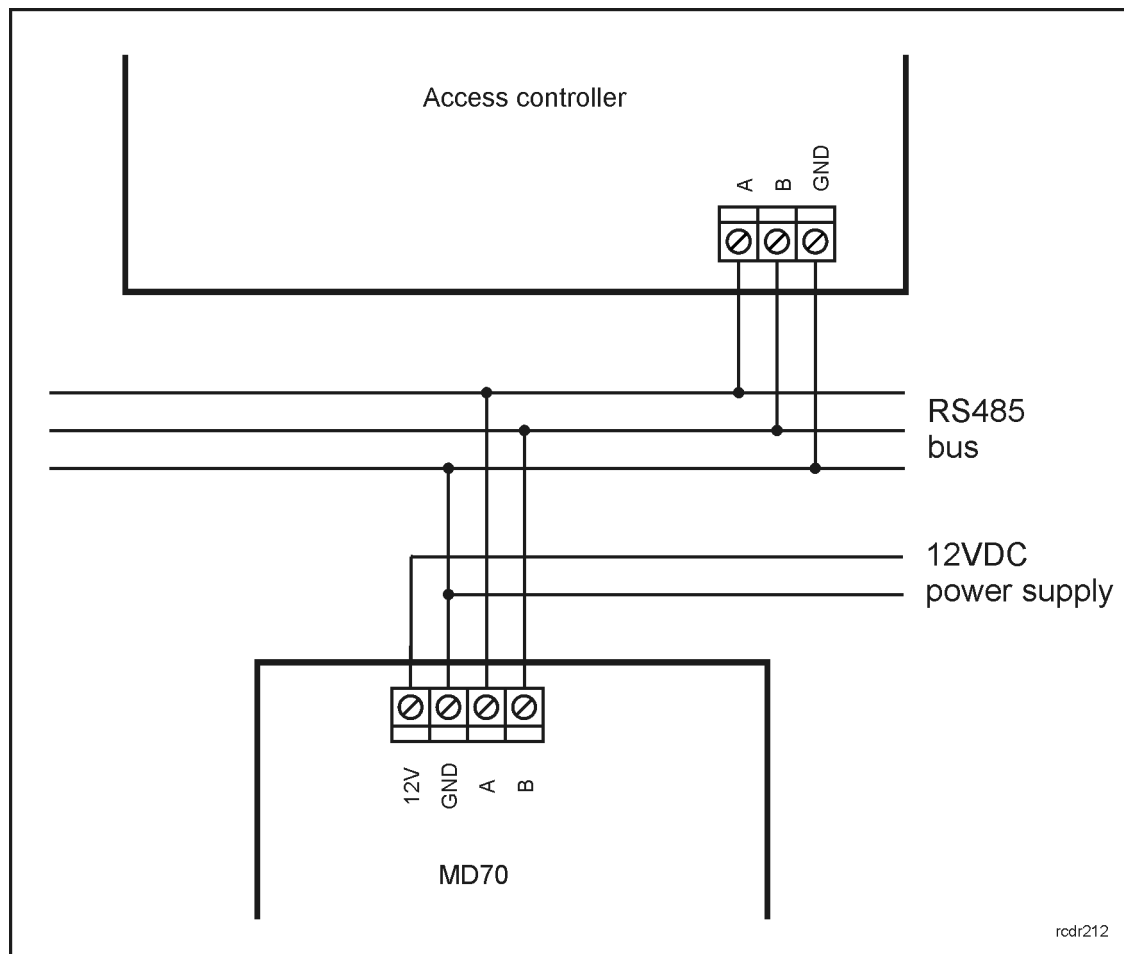

Fig. 5 MD70 connection to RS485 bus
Connect power supply and both A and B lines of RS485 bus according to fig. 5.
- The terminal consists of front panel and base which are factory assembled and they must be disassembled prior to terminal installation using standard flat head screwdriver. Insert flat ending successively into all four holes on both sides in order to release internal latches (fig. 5)